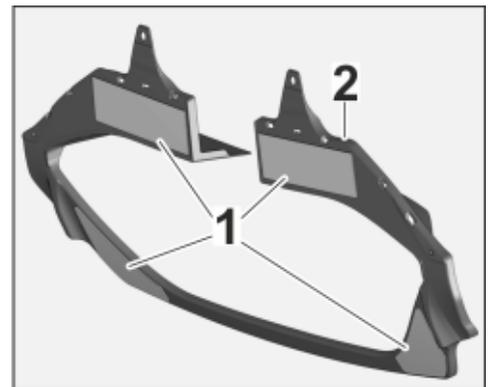

Figure 23
- 4.1.6 Pull protective film (⇒ *Figure 23 -1-*) off the reinforcement (⇒ *Figure 23 -2-*).